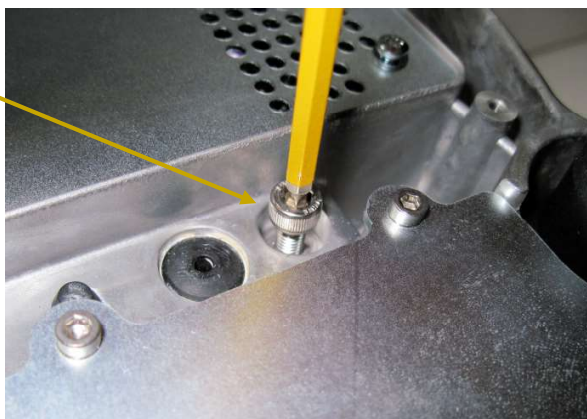

Figure 86 Instrument inlet purge port securing bolt
5. Locate the instrument purge inlet port shown in Figure 86.
6. Using an M5 hexagonal key, unscrew and remove the bolt in the inlet port (Figure 86).